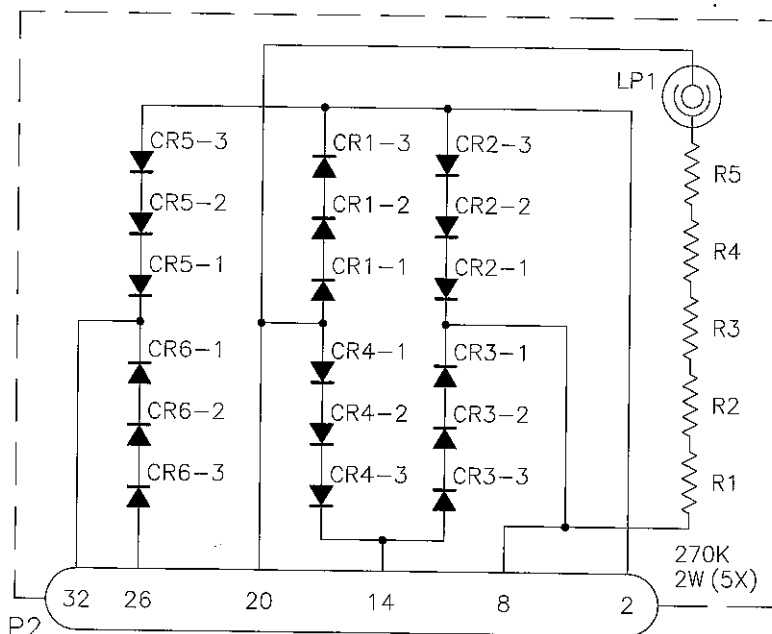

Figure 4-2.
4.2.1.1 High Voltage Printed Circuit Board (Figure 4-2, this page)